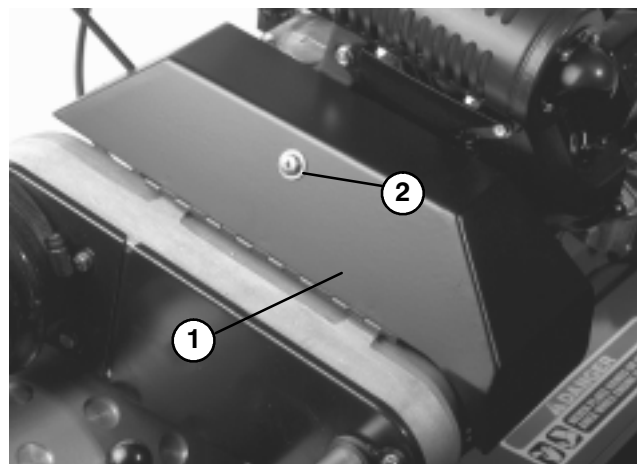

Figure 38
Primary V-Belts (Fig. 38–39)
2. Loosen retainer securing v-belt cover and pivot cover open (Fig. 38).